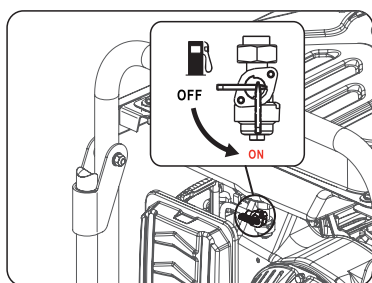

Fig 10
- Turn fuel valve to the “ON” position. (See fig 10)